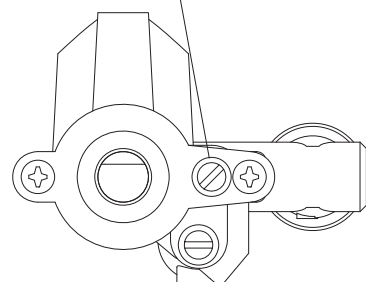

Figure 2 - Low Flame Setting Detail
m) LOW FLAME setting can be adjusted by means of a screw on control front (*refer to Figure 2*). If necessary, adjust flame by following procedure:-